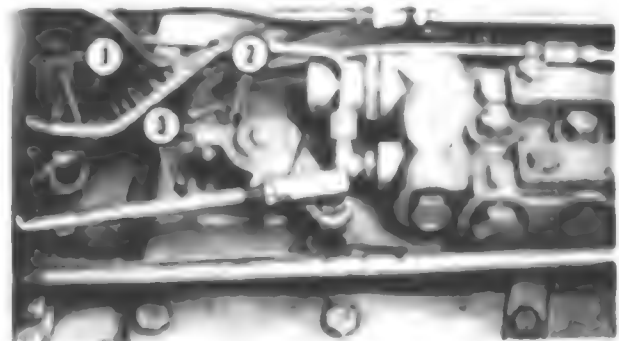

Fig. 101—Foot-N-Inch valve and linkage used on Model Hydro 84.
**88. FOOT-N-INCH VALVE.** The Foot-N-Inch valve is a pedal operated needle type valve located on left side of tractor. See Fig. 101. The pedal return spring holds the valve stem at the top of its bore so that maximum pressure can be held by the poppet. To adjust the valve, loosen jam nut (3) and unscrew valve stem (2) until pedal can be depressed fully to the foot plate without the valve restricting pedal movement. Hold pedal down and using a small punch in hole in stem, screw stem into linkage until stem contacts inside of valve and starts to lift pedal. Then, unscrew stem one full turn from linkage and tighten the jam nut.